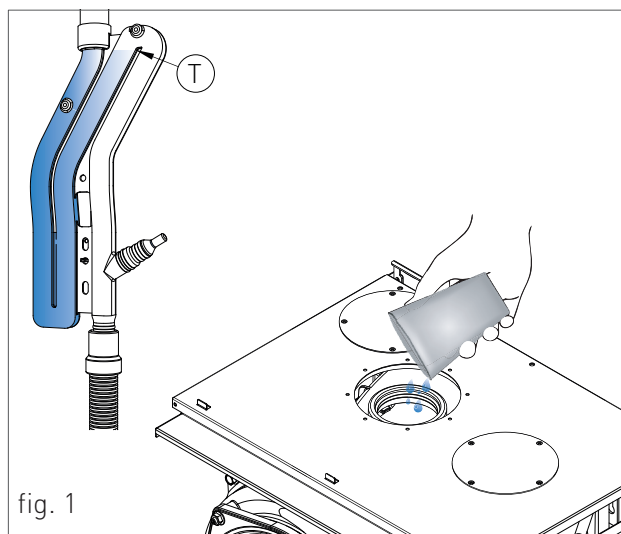

fig. 1
1. slightly loosen the cap of the jolly valve placed on the top of the condensing block to release the air from the top of the system (fig.1);
Fill the condensate collection siphon as follows (see fig. 1):
- > With a glass pour the water in the heat exchanger's flue exhaust duct outlet (see fig. 1), up to fill the condensate trap to the highest point "T" (fig. 1);